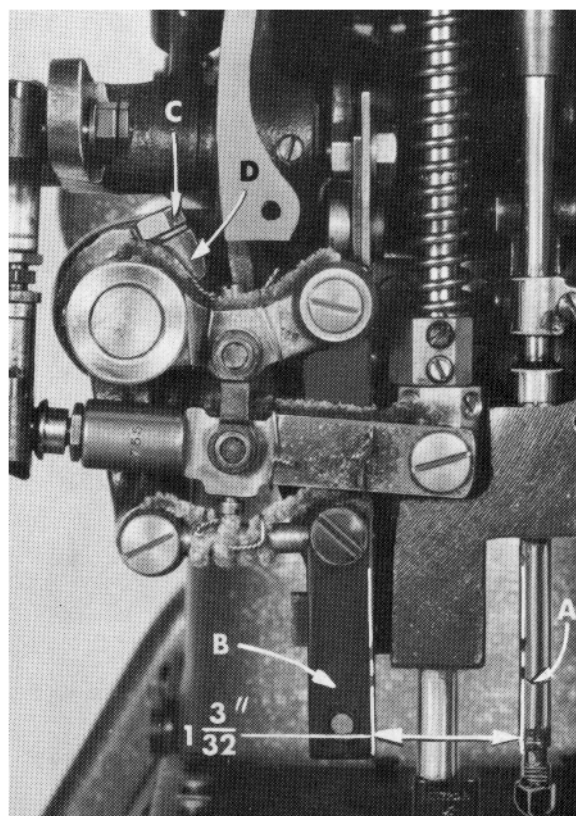

Fig. 8
As the needle bar just begins to rise from the bottom of its stroke, the distance between the rear of the needle bar (A, Fig.8) and the front of the upper feed bar (B) should be $1\frac{3}{32}$ inch (Fig. 8). Adjustment can be made by loosening screw (C) in the upper feed driving lever (D) and moving it forward or rearward as required and retighten screw (C).